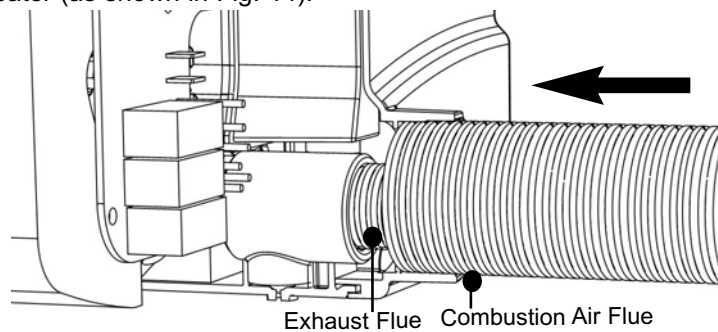

Fig. 14 Attach Combustion Air Flue
- ii. Fit the combustion air flue to the Water Heater by sliding it over the exhaust flue and then connect to the Water Heater (as shown in Fig. 14).